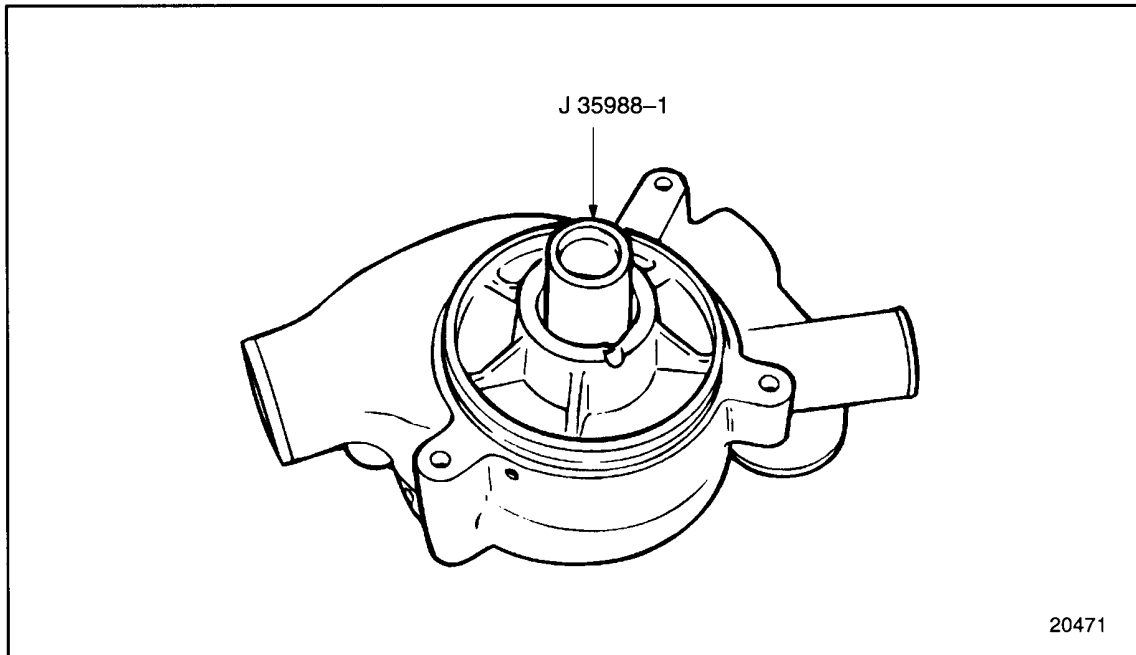

Figure 4-17 Oil Seal Installation
3. Place the small end of tool J 35988-1 part of J 35998-B, part of tool set J 35988-B, into the water pump housing until it contacts the oil seal. See Figure 4-17.